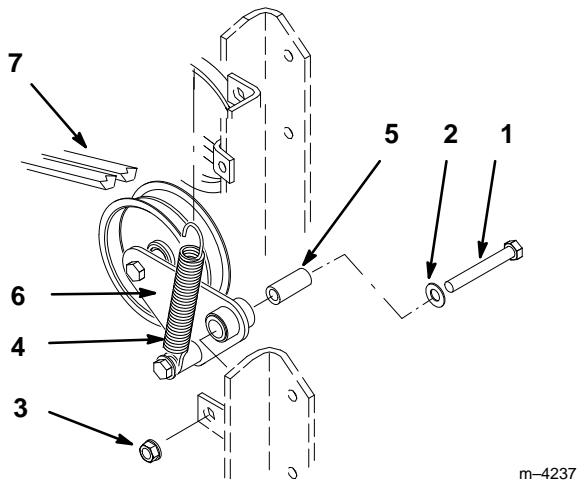

Figure 5
2. Locate idler arm. Remove spring from idler arm. (Fig. 5).
3. Remove bolt from pivot. Save all hardware except for the bolt (Fig. 5).
4. Install new bolt and hardware (Fig. 5).
Note: Notice how the bolt is installed. The head must be toward the inside of the mower (Fig. 5).